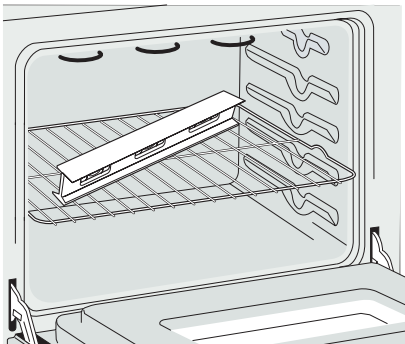

Figure 9: Leveling
1. Install an oven rack in the center of the oven (see Figure 9).